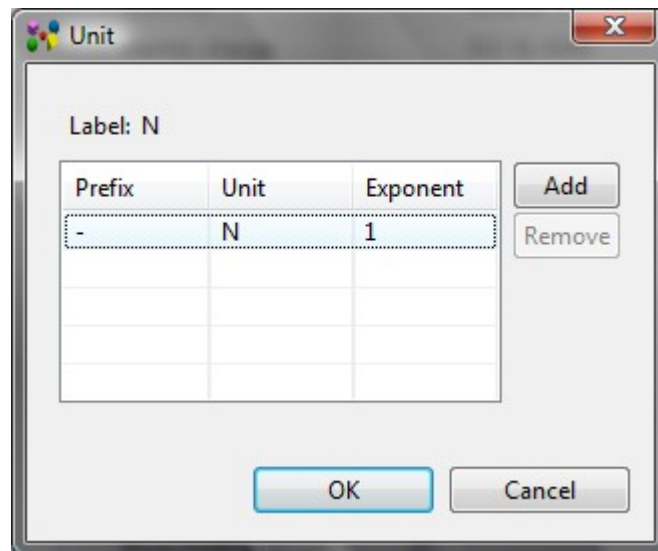

Figure 6. Unit wizard dialog window
The **Unit** wizard helps the user to create a new unit for the selected quantity (see Figure 6).
- The **Unit** wizard dialog window appears on the screen (see Figure 6):